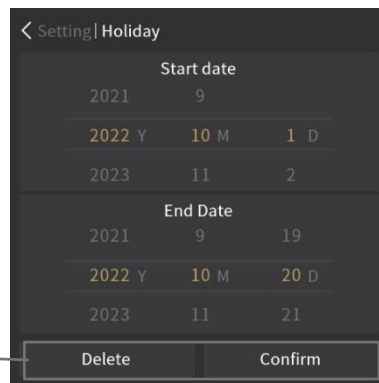
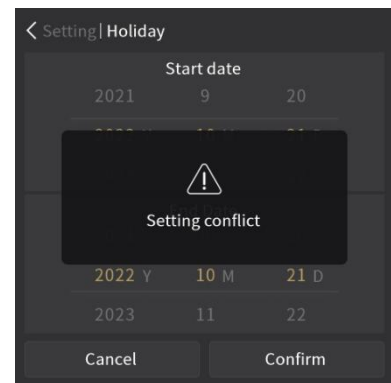
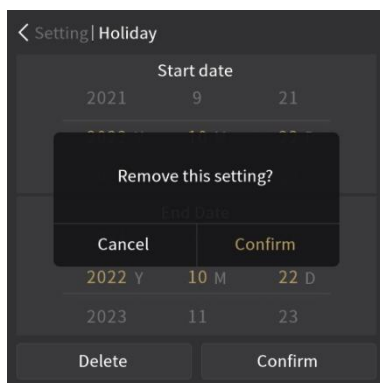

Fig.2.11.15
Fig.2.11.16
Fig.2.11.17
②④ Enter the holiday time setting by touching the icon ;
Touch icon ②④, enter the interface as shown in Fig.2.11.15, set the period of holiday, here set up after the start time and end time of the holiday, click “Confirm” to finish the setting. If the holiday time is repeated when setting, then will pop up a window as shown in Fig.2.11.16; touch the area outside the window to return to the setting page.
②⑤ This icon is to confirm and delete setting.
If it is to be modified or deleted the setting time, touch this time period to the right of the icon ②⑤, then re-enter Fig.2.11.15 interface, in this period of time to modify or delete, click “Delete” as shown in Fig.2.11.17 pop-up window. In the pop-up window, click “Cancel” to return to the setting page, and click “Confirm” to delete it. If no modification or deletion is needed, the icon in the upper left corner of the touch interface returns to the holiday interface.